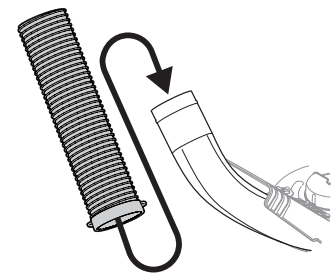

Figure 28
2. Lift by the hose end handles. Slide the hose over the bagger chute mounted on the cutting deck, as shown in Figure 28.